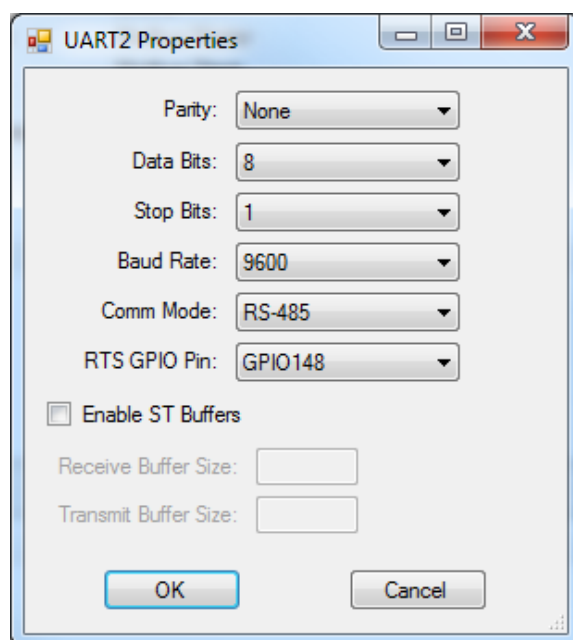

Figure 2-44 - UART2 Properties
5. Using the drop-down menu items, select the parity, data bits, stop bits, baud rate, Comm Mode and RTS GPIO pin. If you are planning to use structured text to communicate with devices on this port, click the Enable ST buffers checkbox and enter the transmit and receive buffer size. Refer to Figure 2-44. Click **OK**. The *UART2 Properties* dialog will close.